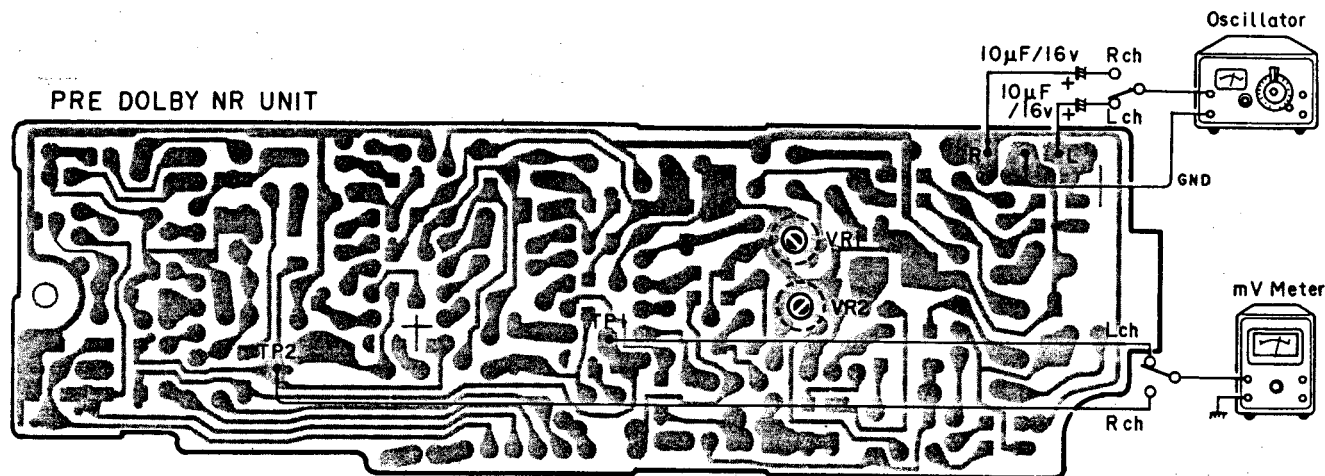

Fig. 17
- Connection Diagram (Shown in Fig. 17)